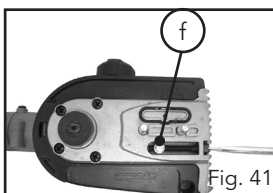

Fig. 41
3. Adjust the chain tensioning screw using the flat end of the combination tool (21) until the bolt (f) fits into the hole in the guide bar (Fig. 41 & 42).
4. Fit the cover panel (d) back onto the pole pruner, then replace the two chain guide cover nuts (c). Fasten the two nuts (c) finger tight only. Do not use the combination tool (21) at this stage.